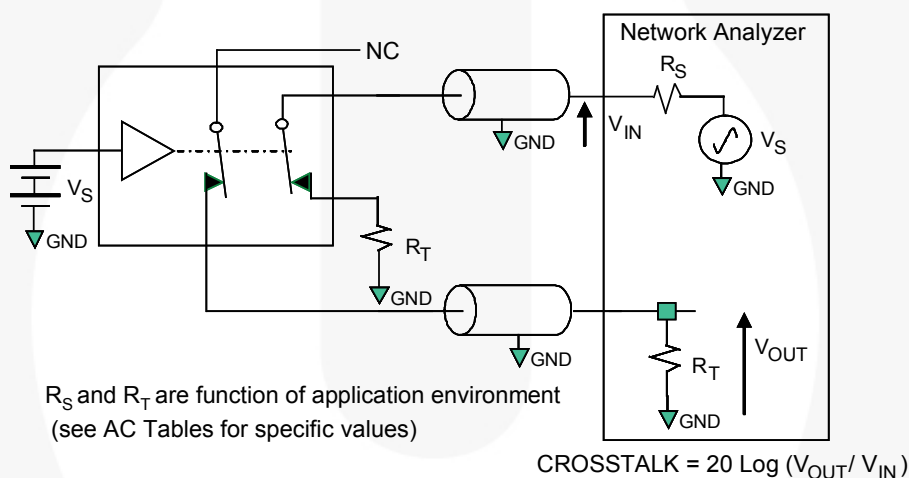

Figure 13. Channel-to-Channel Crosstalk
| Xtalk        | Non-Adjacent ChannelCrosstalk (9) | 2.7 to 3.6                | $f=10\text{MHz}$ , $R_T=50\Omega$ , $C_L=30pF$ ,See Figure 13   |                                                     | -60  |      | dB   |
| Xtalk        | Non-Adjacent Channel Crosstalk (11) | 2.7 to 3.6              | $f=10MHz$ , $R_T=50\Omega$ , $C_L=30pF$See Figure 13            |                                        | -60  |      | dB   |